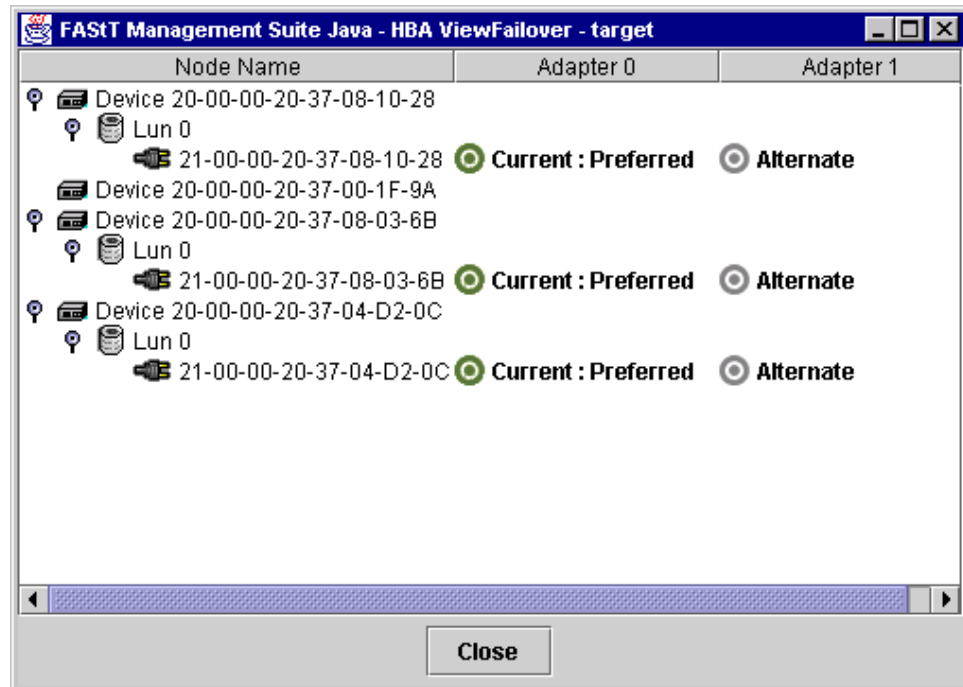

Figure 33. HBA View Failover window
- Right-click the host in the HBA tree. From the pop-up menu, click **Current Path**. The HBA View Failover window displays (see Figure 33 on page 101).